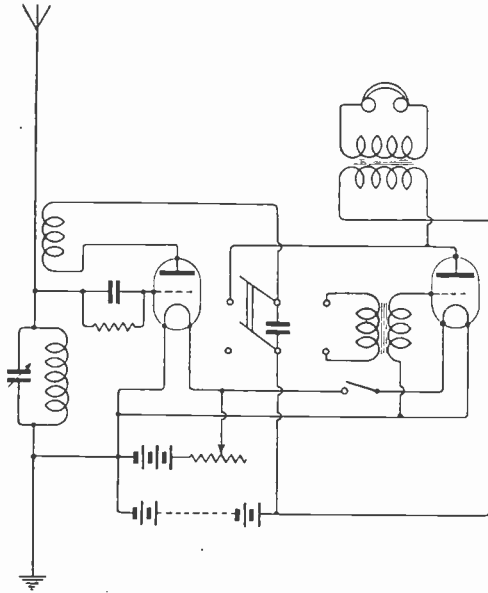

Fig. 4.
**C.J.W.P. (Harrow)** draws attention to an unnecessary connection in Fig. 4, page 526, of the November 12th issue of "The Wireless World," and asks (1) If this is incorrect. (2) If a grid potentiometer will improve the working of the first valve in this set. (3) What is the percentage magnification with the L.F. magnifier.
- (1) Correct diagram is given in Fig. 4, herewith.
- (2) Practically no improvement would be noticeable, as most valves are near a good magnifying